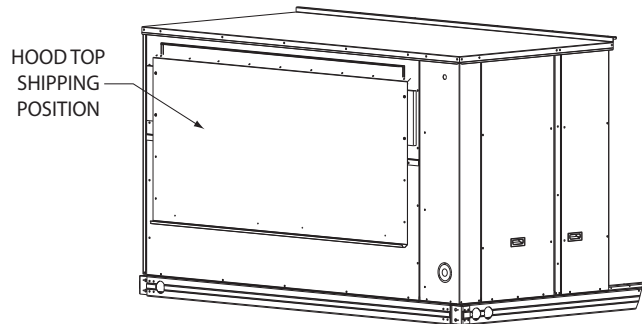
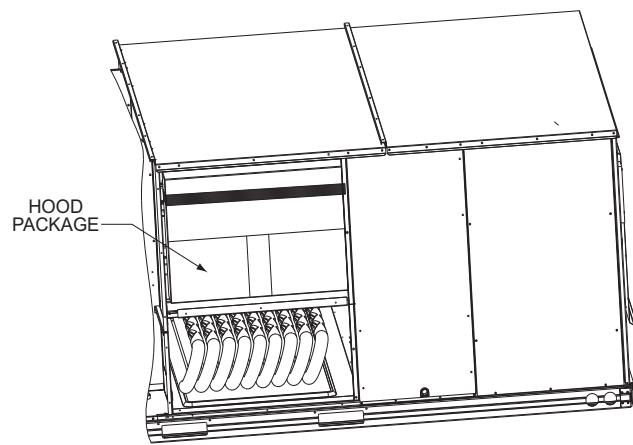

Fig. 13 — Hood Top — Shipping Position
Fig. 14 — Hood Package — Shipping Location
Step 8 — Install Outside Air Hood — Factory Option — The outside air hood for factory-option economizer and two-position damper is shipped in knock-down form and requires field assembly. The panel for the hood top is shipped on the end of the unit (see Fig. 13). The remaining parts for the hood assembly (including side panels, filters and tracks) are shipped in a carton that is secured to the rear of the blower assembly. Access the carton location through rear panel (see Fig. 14).